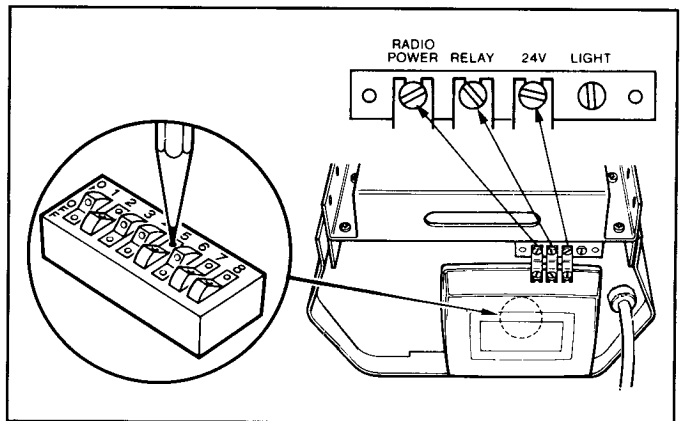

Figure 5. Receiver Coding Switch.
Step 6: Locate the coding switch recessed in back of the receiver. Before removing receiver, note terminals used. (See Figure 5.)
Step 8: Select a code. Then use a pencil or ballpoint pen to set the code keys on the transmitter and the receiver (see Figure 5 and 6).
From left to right, the example code in Figure 5 shows that keys numbered 1, 3, 4 and 6 are OFF.
Step 10: Check terminal screws (Figure 5) to verify that connections are tight.